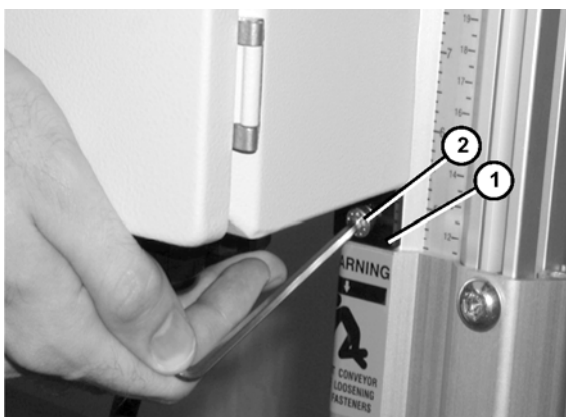

Figure 6
2. Partially thread controller mounting bar (Figure 6, item 1) to lower t-nut with screw (Figure 6, item 2).